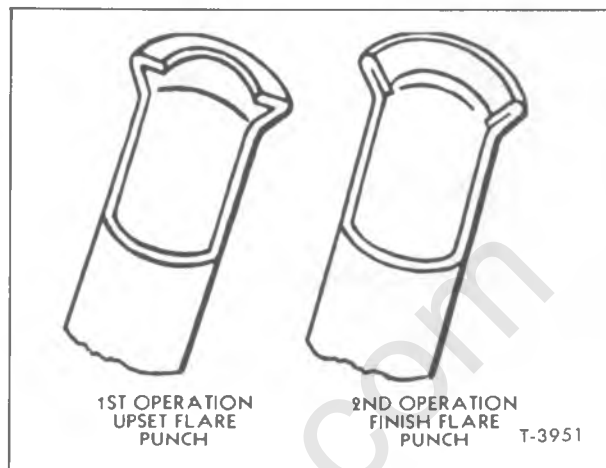

Figure 6—Flaring Operation (First and Second Flare)
8. Insert finish flare and ram in tool body and tap ram until a good seat is formed (fig. 6).